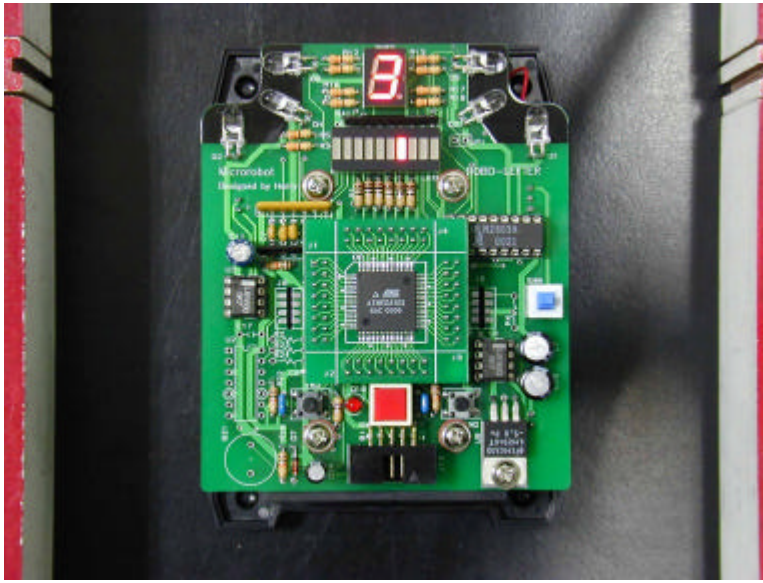

Fig 4.4
(1) Press the reset switch. Next, press the mode switch four times. The number '3' appears and the fourth LED on the array lights up. (Fig 4.4)